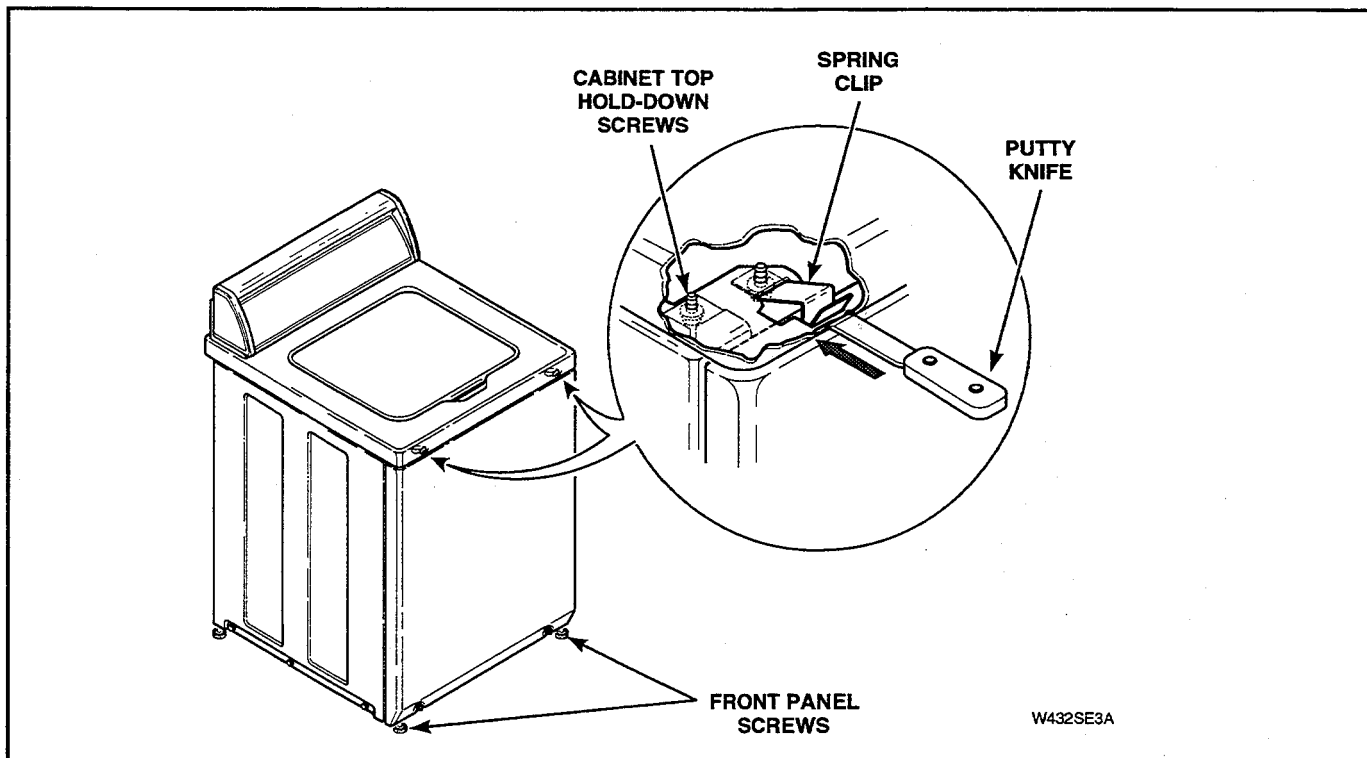

Figure 5-21
NOTE: Top edge of front panel is held in place by two spring clips located on bottom flange of cabinet top. See Figure 5-21.
- Insert putty knife between cabinet top and top edge of front panel (approximately three inches in from side). See Figure 5-21.
- Remove two screws holding motor shield to motor. See Figure 5-21.
- Remove two cabinet top hold-down screws. See Figure 5-21.
- a. Insert putty knife between cabinet top and top edge of front panel (approximately three inches in from side). See Figure 5-21.